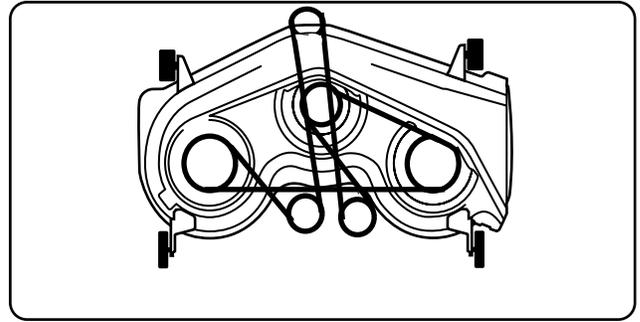

Figure 8.22
- For 50" "P" and 54" "K" decks, See Figure 8.22.